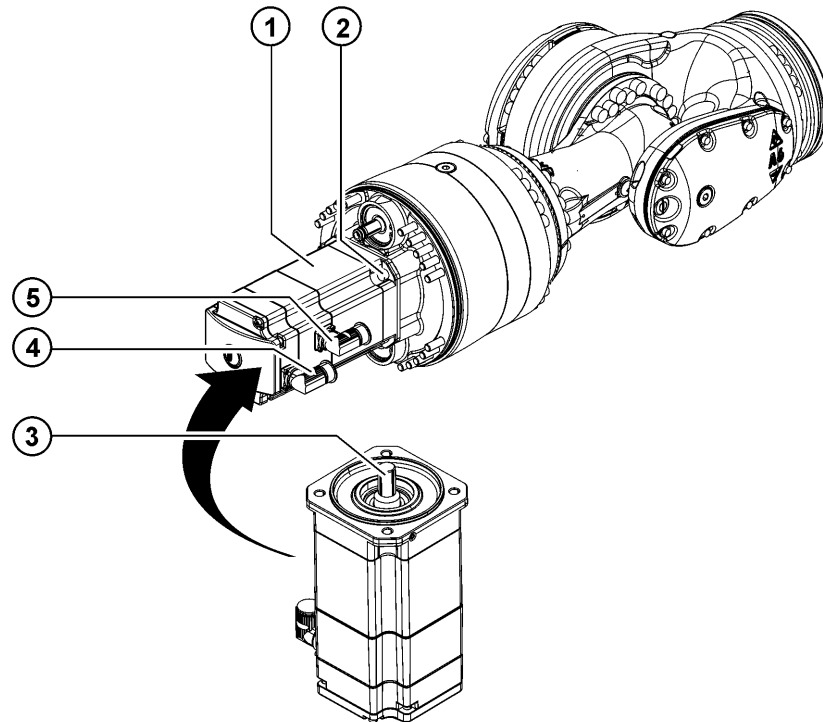

Fig. 11-18: Removing motor A6
2. Clean the toothing on motor A6 and in the gear unit of the in-line wrist before installation and apply a thin but continuous coat of Microlube GL 261 grease (>>> Fig. 11-18).